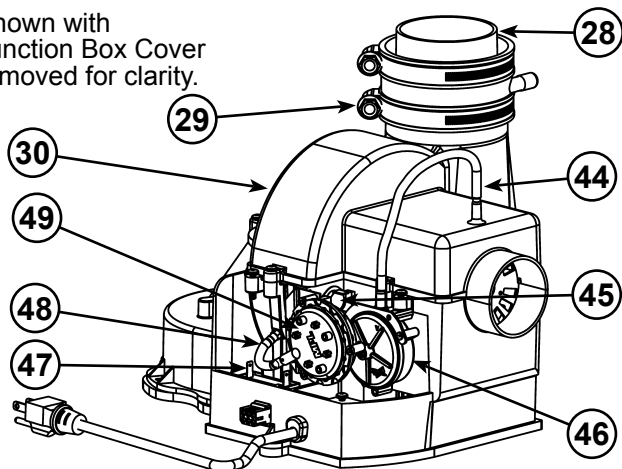

Figure 5
| 8 T&P Valve | 25 Baffle Assembly | 44 Air Tubing (Intake) (see Figure 5) |
| 9 * Discharge Pipe | 26 Hot-Water Outlet Nipple/Anode | 45 Blower High Limit Switch (see Figure 5) |
| 10 **Combo Heating System Return Inlet (Optional) | 27 *Inlet Water Shut-off Valve | 46 Intake Air Pressure Switch (NC) (inside box) (see Figure 5) |
| 11 Gas Control Valve/Thermostat (Honeywell) | 28 ****Rubber Coupling (see Figure 5) | 47 Capacitor (see Figure 5) |
| 12 Gas Valve Electronic Control Module And Cover (Honeywell) | 29 Gear Clamp (see Figure 5) | 48 Air Tubing (Exhaust) (see Figure 5) |
| 13 Drain Valve | 30 ***Blower with Power Cord (see Figure 5) | 49 Exhaust Air Pressure Switch (NO) (inside box) (see Figure 5) |
This device is located on the blower (see Figure 5, item 45) and limits the maximum temperature of the blower. If the blower temperature rises above the temperature setting, the switch opens causing the heater to shut down. The switch will auto reset once the temperature drops sufficiently.
The blower/heater is equipped with two air pressure switches located in the junction box (see Figure 5, item 46 and item 49). These devices are connected in series and monitor the air pressure produced by the blower. In the event that the exhaust venting becomes blocked or sufficiently restricted, the normally open (NO) air pressure switch will shut down the heater. In the event that the intake pipe becomes sufficiently blocked or restricted, the normally closed (NC) air pressure switch will shut down the heater.